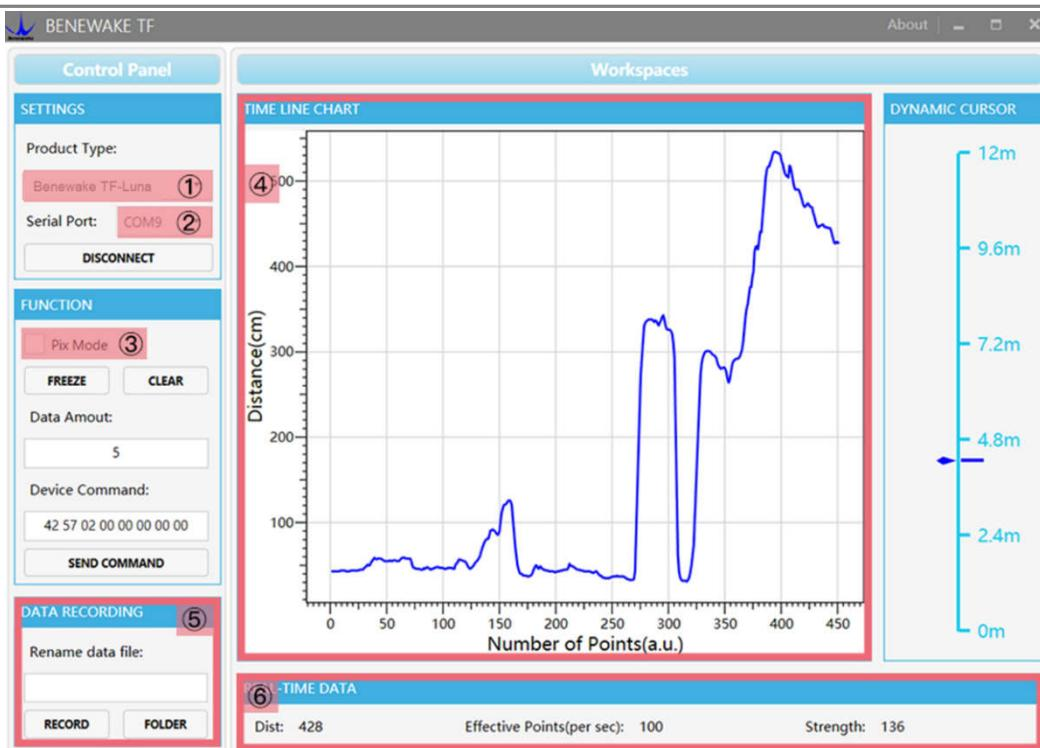

Figure 10 PC software Interface and Display
- ③ Open your test software and check data output
Open the PC software and select “①TF-Luna” and select automatically recognized occupied serial port (in this case “② COM9” ) as shown in Figure 10.